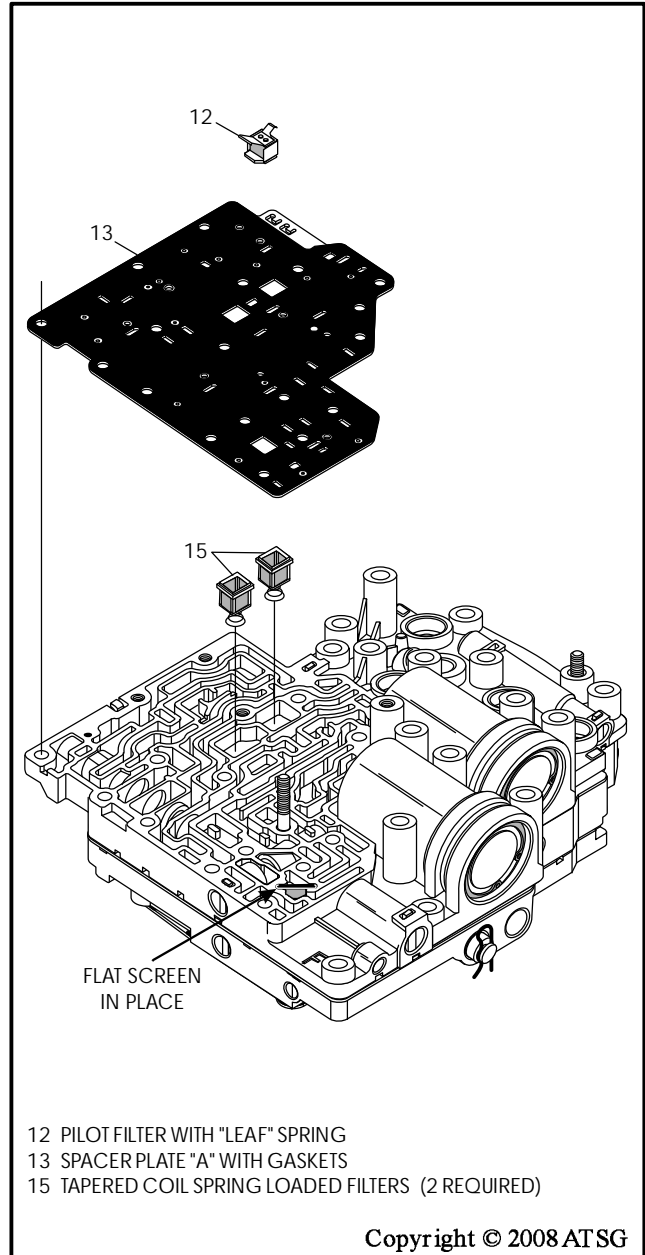

Figure 173
38. Install the two tapered coil spring loaded filters into their pockets in the lower valve body, with the spring side down, as shown in Figure 173.
39. Install spacer plate "A" with bonded gaskets over one bolt onto the lower valve body, as shown in Figure 173.
40. Install the pilot filter with the "leaf spring" facing up, and the wide leg of the "leaf spring" facing the bottom of valve body, as shown in Figure 173.